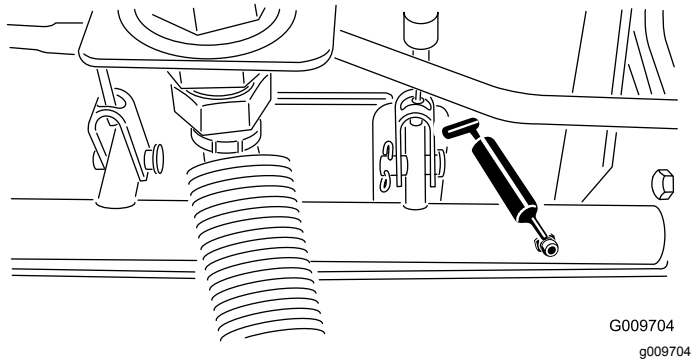

Figure 58
- Brake-shaft pivot bearings (5) as shown in Figure 58